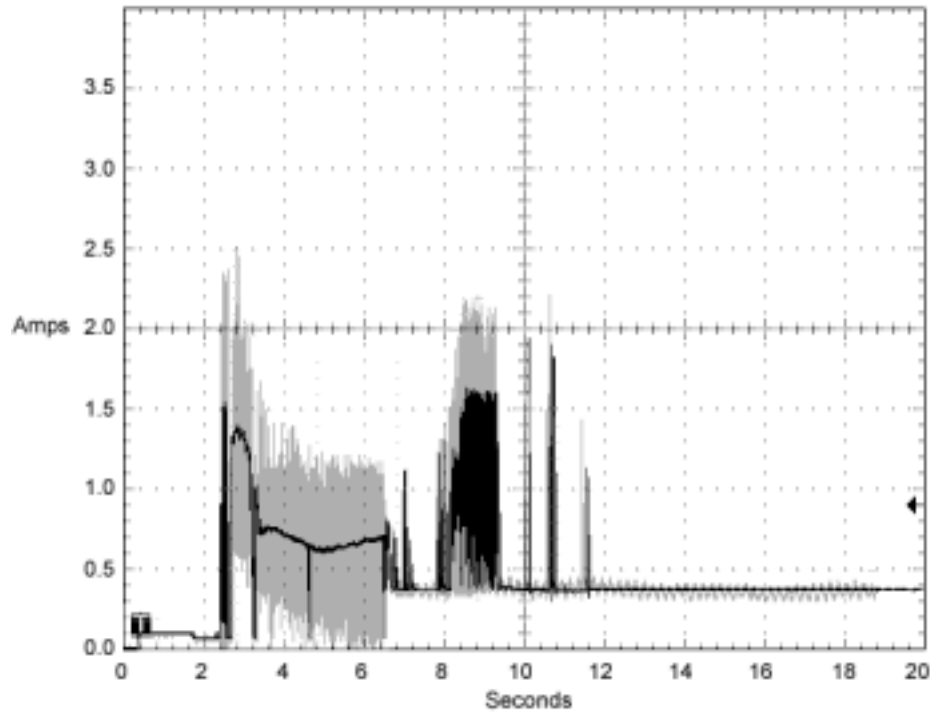

Figure 2. Typical ST336807FC drive, 2 Gbit, +12V current profile
- [3] See +12V current profile in Figure 2.
Figures 2 and 3 identify the drive current profiles. The current during the various times is as shown: